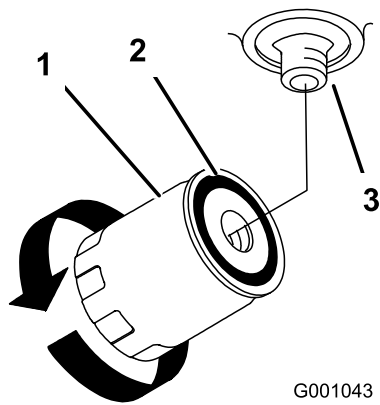

Figure 84
4. Remove the old filter and wipe the filter-adapter gasket surface clean (Figure 84).
7. Turn the oil filter clockwise until the rubber gasket contacts the filter adapter, then tighten the filter an additional 1/2 turn (Figure 84).